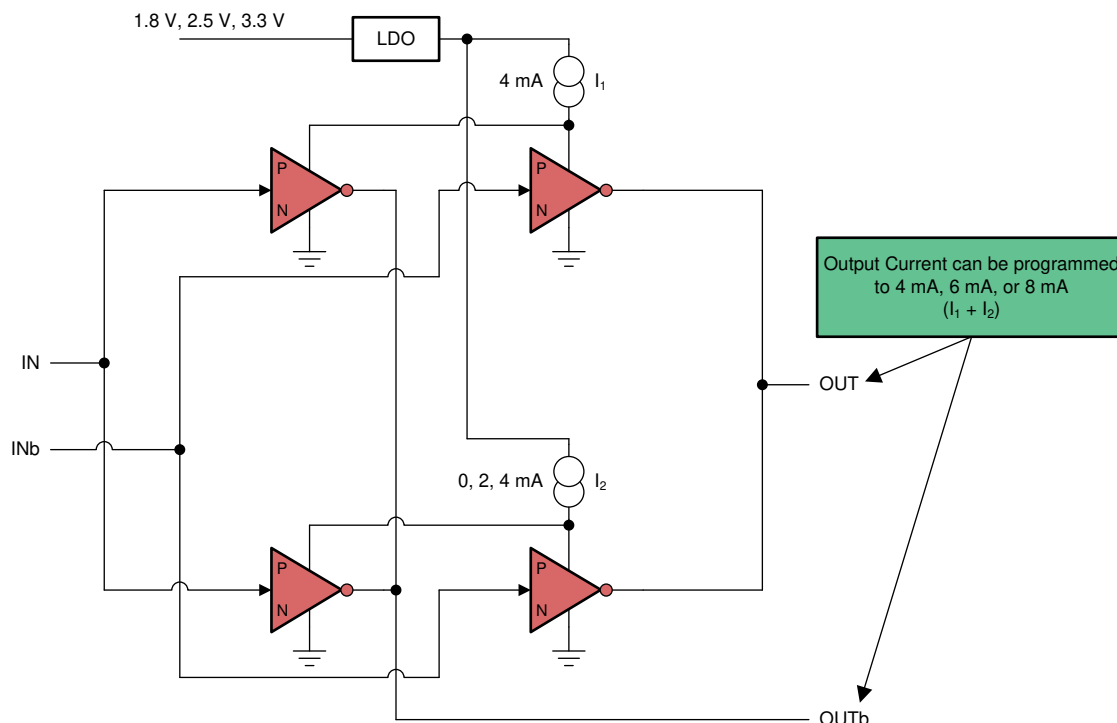

图 8-22. Structure of AC-LVDS, AC-CML, and AC-LVPECL Output Stage
The AC-LVDS, AC-CML, and AC-LVPECL output structure is given in Figure 8-22 where the tail currents can be programmed to either 4 mA, 6 mA, or 8 mA to generate output voltage swings that are compatible with LVDS, CML, or LVPECL, respectively. Because this output structure is GND referenced, the output supplies can be operated from 1.8 V, 2.5 V, or 3.3 V, and offer lower power dissipation compared to traditional LVDS, CML, or LVPECL structures without any impact on jitter performance or other AC or DC specifications. Interfacing to LVDS, CML, or LVPECL receivers is accomplished using just an external AC-coupling capacitor for each output. No source termination is required, because the on-chip termination is automatically enabled when selecting AC-LVDS, AC-CML, or AC-LVPECL for good impedance matching to 50- Ω interconnects.
- The latency is deterministic and the variation is no more than 1 VCO clock cycle. An example scenario is shown in 图 8-22.